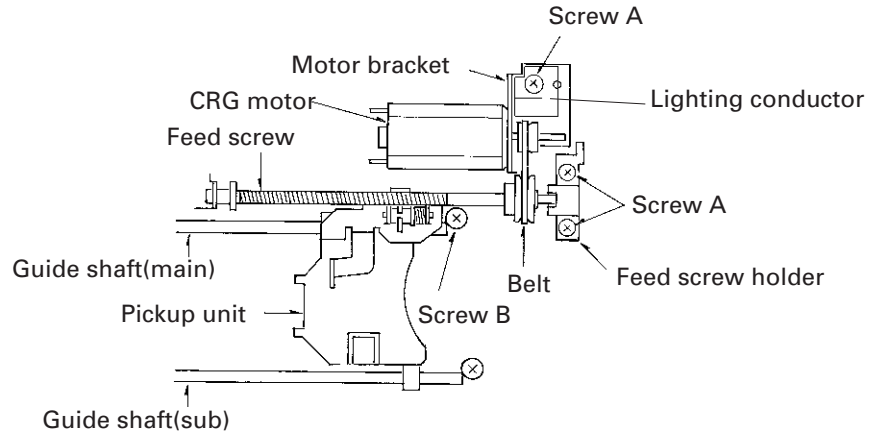

Fig. 23
6. Remove three screws A and then remove the carriage motor assy, remove the lighting conductor , screw holder, feed screw and belt (see Fig. 23).
7. Remove screw B on the main side and the pickup unit together with the guide shaft (see Fig. 23).